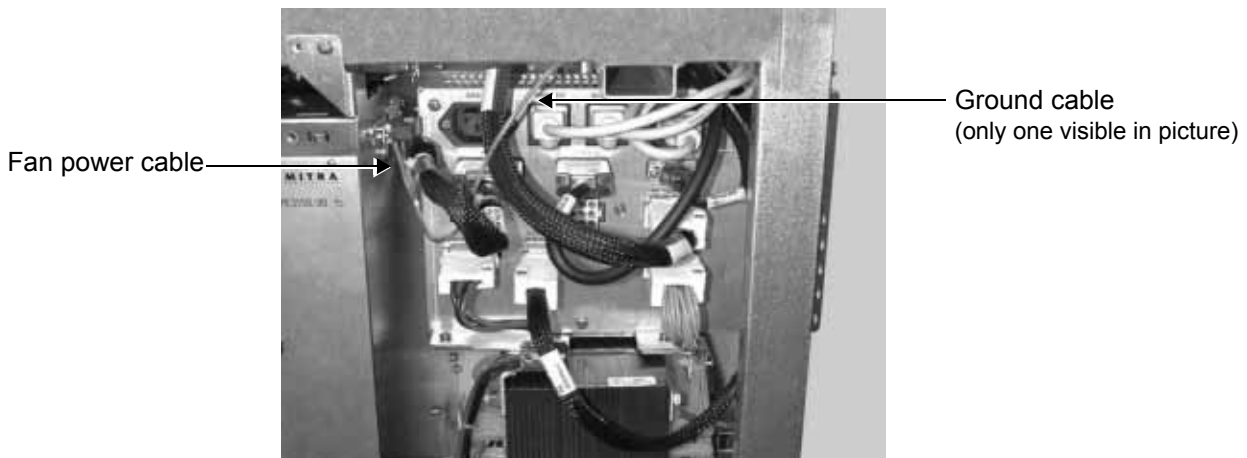

Figure 8-46 Fan Power Cable Connections
- 10) Disconnect the two Ground cables from the crate - see Figure 8-46 on page 8-50.